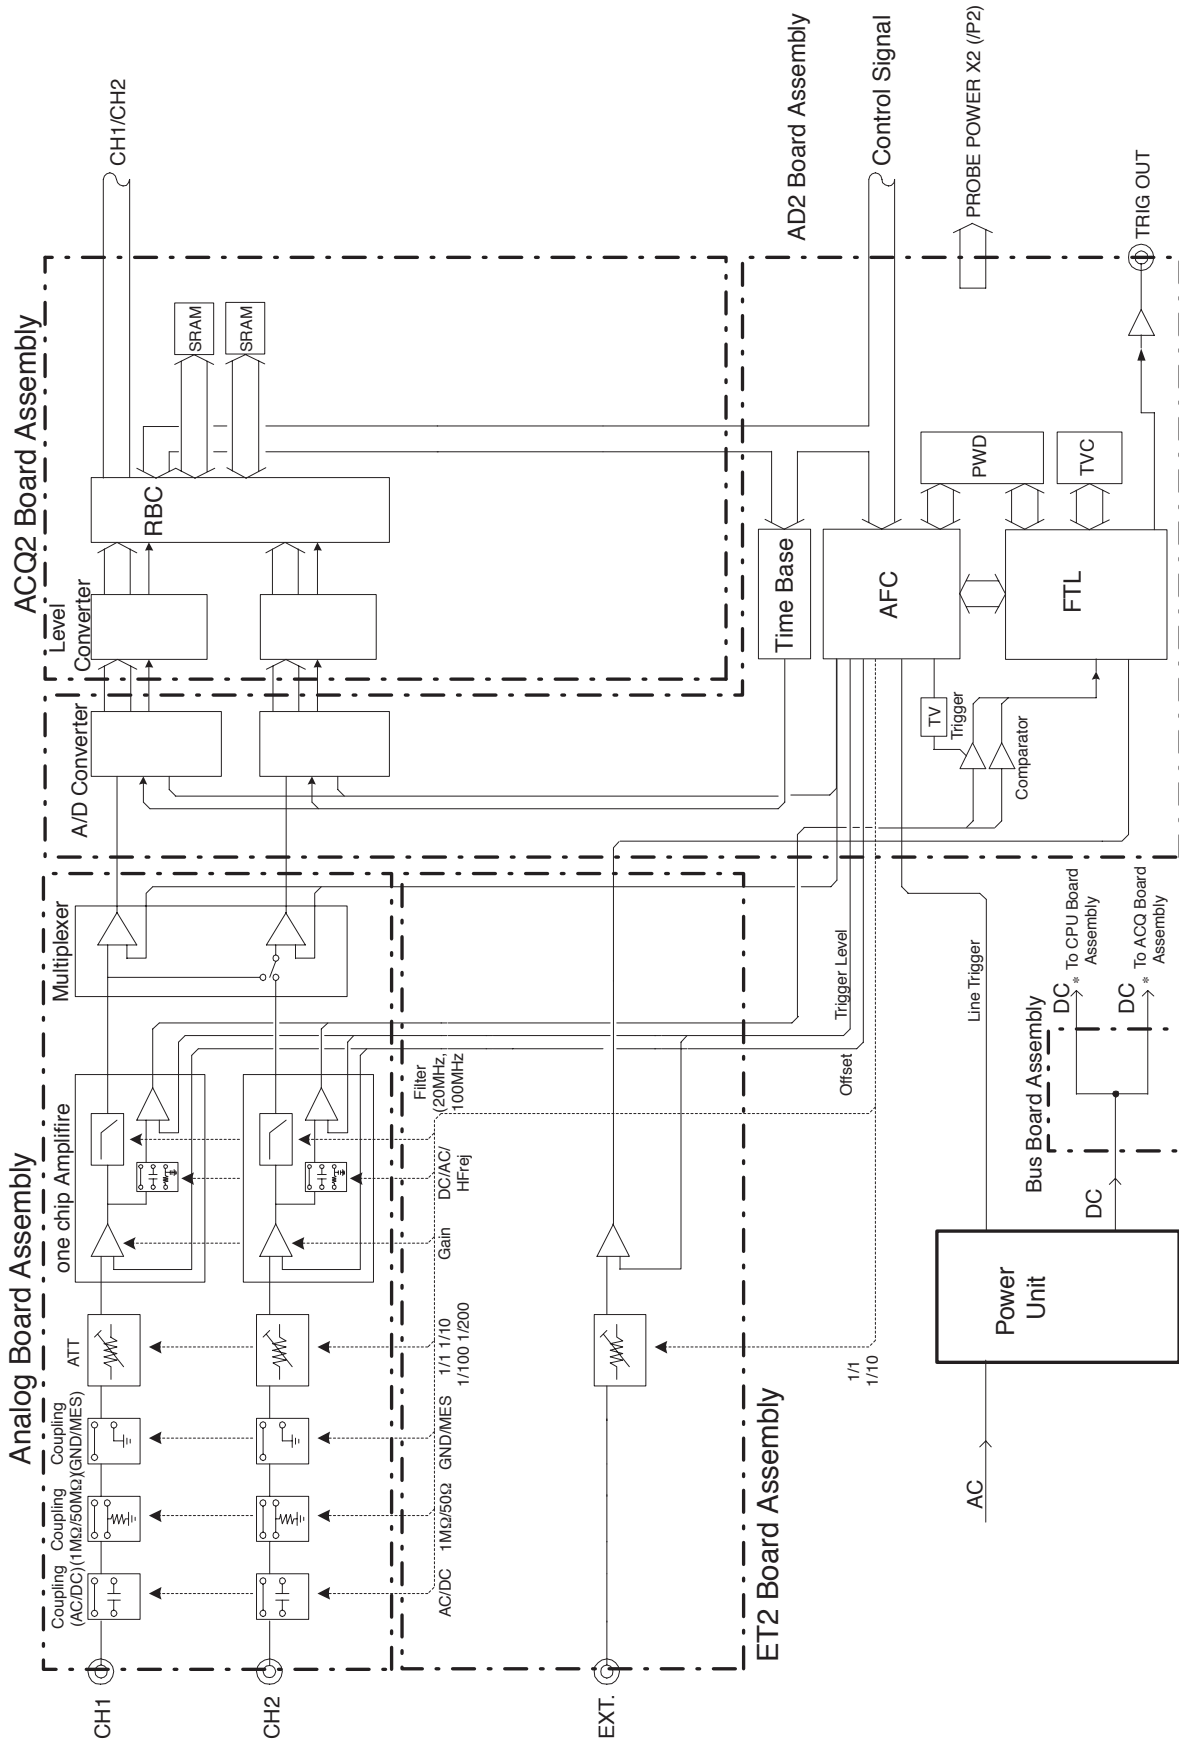
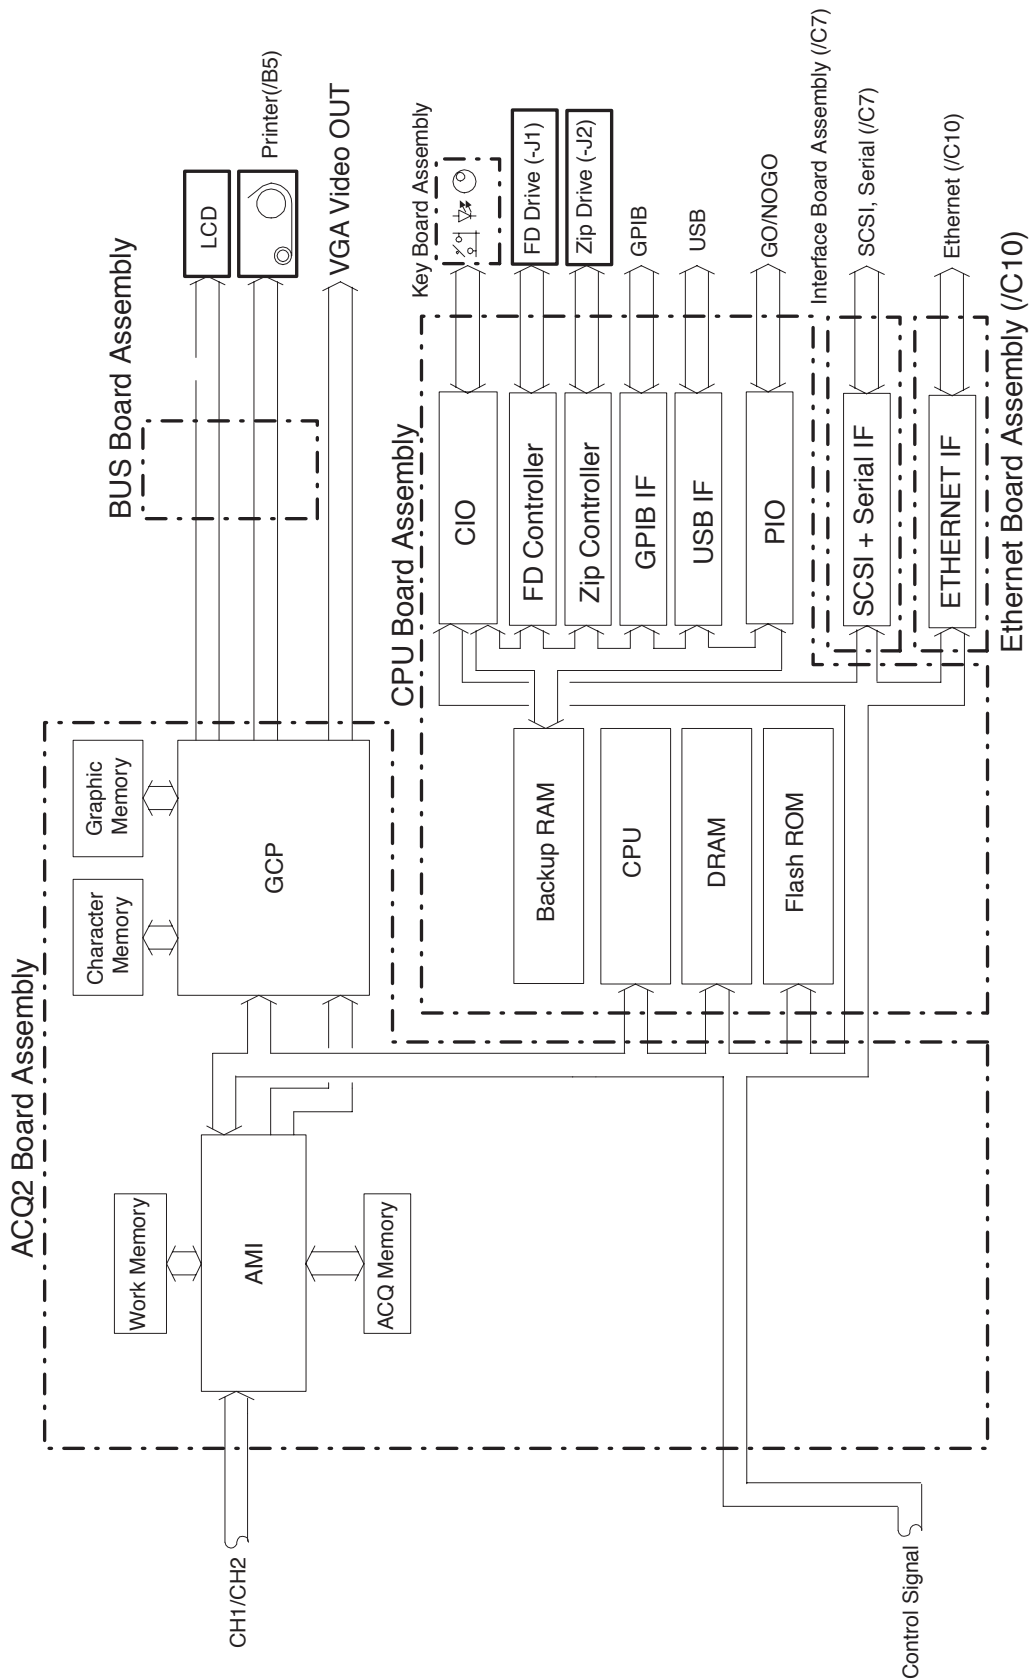

Figure 4.1 Block Diagram (Analog Section) of the DL1720
Figure 4.2 Block Diagram (Digital Section) of the DL1720
The block diagrams of the DL1720 are shown in figure 4.1 and figure 4.2. The block diagrams of the DL1740 are shown in figure 4.3 and figure 4.4. Figure 4.1 and figure 4.3 are block diagrams of the circuit from the analog input to the data acquisition circuit including the attenuator, one-chip amplifier, analog multiplexer, A/D converter, trigger comparator, trigger circuit, and the ring buffer memory and its controller. Figure 4.2 and figure 4.4 are block diagrams of (1) the data processing section which processes the acquired data and displays the waveform, (2) the CPU, and (3) the peripheral circuitry.
As indicated in figure 4.1 or figure 4.3, the vertical sensitivity from 10 V/div to 2 mV/div is achieved by switching the gain on the attenuator and the one-chip amplifier IC.